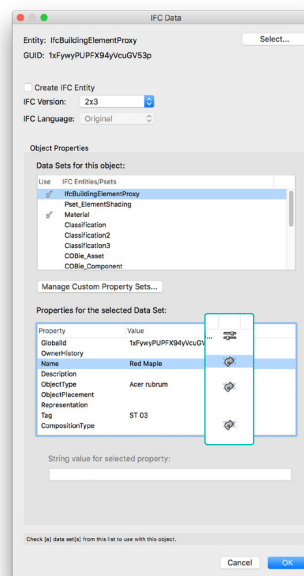

FIGURE 18C
3. The properties or values for the selected Data Sets and whether the value is **by instance** or **by style** (Fig. 18C).